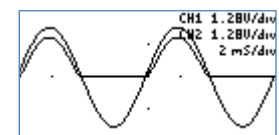

Figure 59: Removing the capacitor
- 6) If the capacitor is removed, the display should look like figure 59.